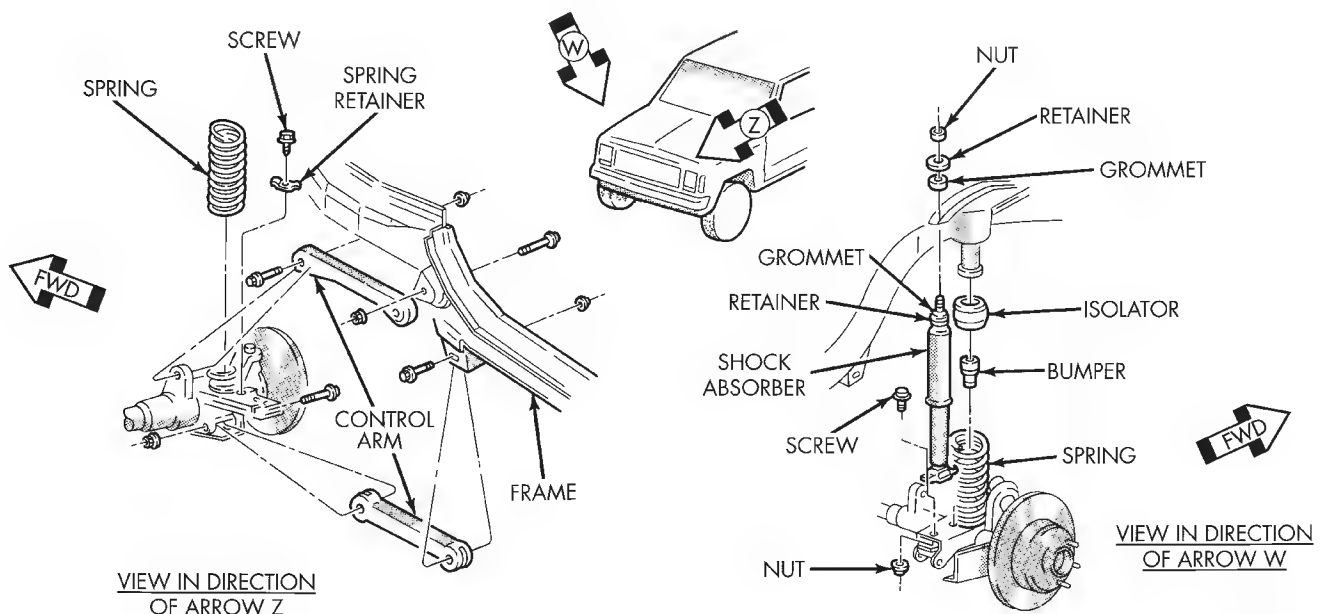

Fig. 6 Coil Spring & Shock Absorber
- (1) Remove the nut, retainer and grommet from the upper stud in the engine compartment (Fig. 6).
- (2) Remove the lower nuts and bolts from the axle bracket (Fig. 6). Remove the shock absorber.
(1) Raise and support the vehicle. Position a hydraulic jack under the axle to support it.
(2) Remove the wheel if necessary.
(3) Mark and disconnect the front propeller shaft from the axle.
(4) Disconnect the lower suspension arms from the axle (Fig. 6).
(5) Disconnect the stabilizer bar link and shock absorber from the axle.
(6) Disconnect the track bar from the frame rail bracket.
(7) Disconnect the drag link from the pitman arm.
(8) Lower the axle until the spring is free from the upper mount. Remove the coil spring clip (Fig. 6) and remove the spring.
(9) Pull jounce bumper out of mount.
(1) Install jounce bumper into mount.
(2) Position the coil spring on the axle pad. Install the spring clip and bolt (Fig. 6). Tighten bolt to 21 N·m (16 ft. lbs.) torque.
(3) Raise the axle into position until the spring seats in the upper mount.
(4) Connect the stabilizer bar links and shock absorbers to the axle bracket. Connect the track bar to the frame rail bracket.
(5) Install the lower suspension arms to the axle. **DO NOT TIGHTEN AT THIS TIME.**
(6) Install the front propeller shaft to the axle.
(7) Remove the supports and lower the vehicle.
(8) Tighten lower suspension arms nuts to 115 N·m (85 ft. lbs.) torque.